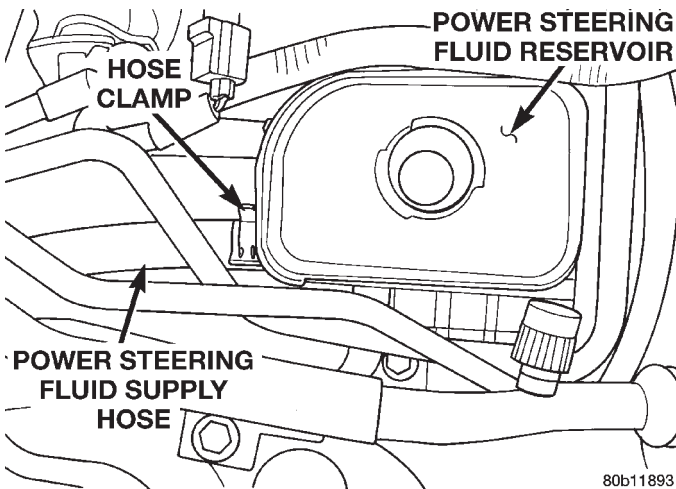
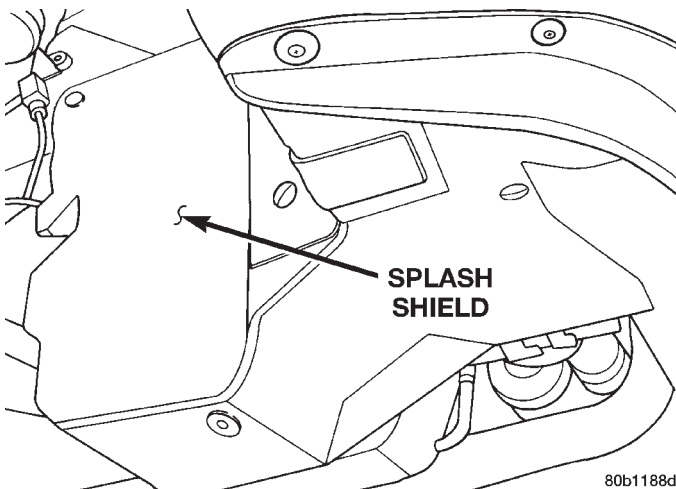

Fig. 16 Supply Hose At Power Steering Fluid Reservoir
Fig. 17 Accessory Drive Splash Shield
(1) Remove battery cable from (-) negative post on battery and isolate cable.
(2) Siphon as much power steering fluid as possible out of the remote power steering fluid reservoir.
(3) Remove the power steering fluid supply hose from the power steering fluid reservoir (Fig. 16). Fluid supply hose will be removed with the power steering pump.
- (4) Raise vehicle.
(5) Remove right front tire from vehicle.
(6) Remove accessory drive splash shield (Fig. 17).
(13) Install accessory drive splash shield (Fig. 17).
(14) Install wheel and tire. Tighten the wheel lug nuts in proper sequence until all lug nuts are torqued to half specification. Then repeat tightening sequence to full specified torque of 129 N·m (95 ft. lbs.).
(15) Lower vehicle.
(16) Install power steering fluid supply hose (Fig. 16) on power steering fluid reservoir fitting. Install hose clamp on hose. Be sure hose clamp is installed